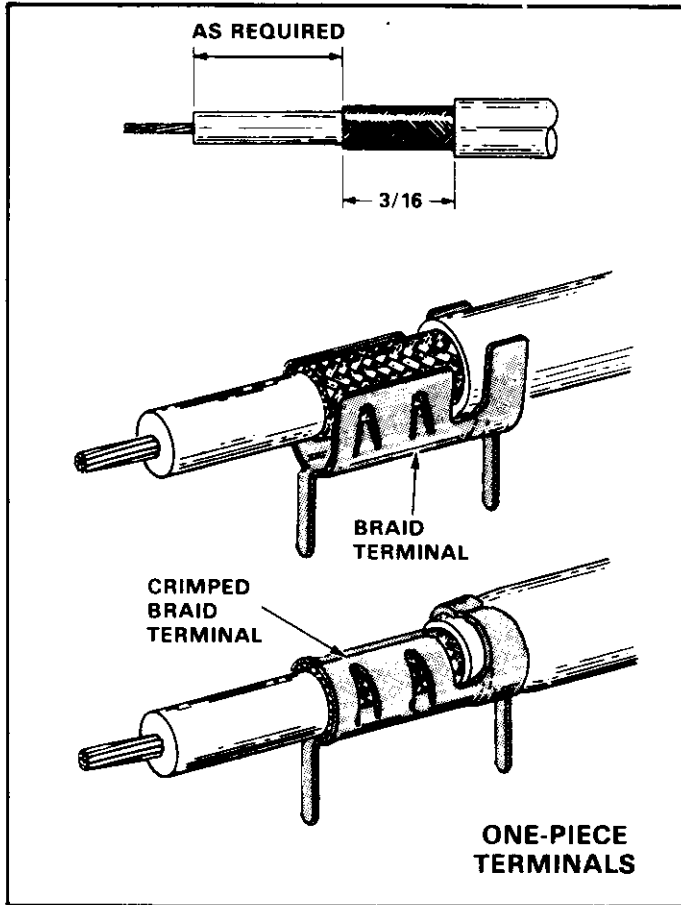

Fig. 2
1. Strip cable to dimensions shown in Figure 2.
2. Place stripped cable into braid barrel of terminal until braid is seated and outer insulation is seated in insulation barrel. See Figure 2.